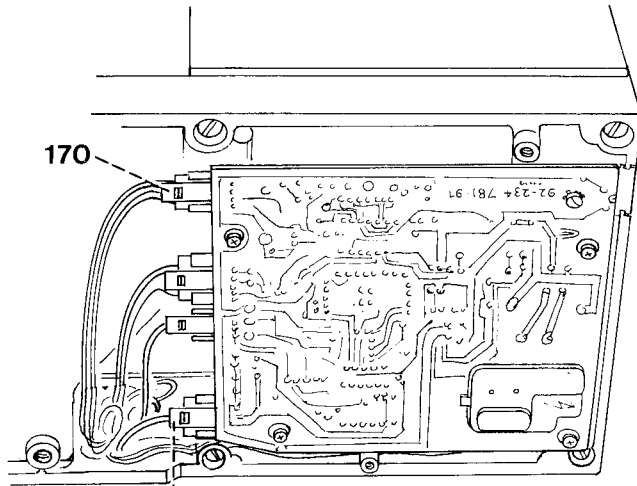

Fig. 29e
- Push test computer/foot control cable 82 onto pins 79 of the test computer (Fig. 29e).